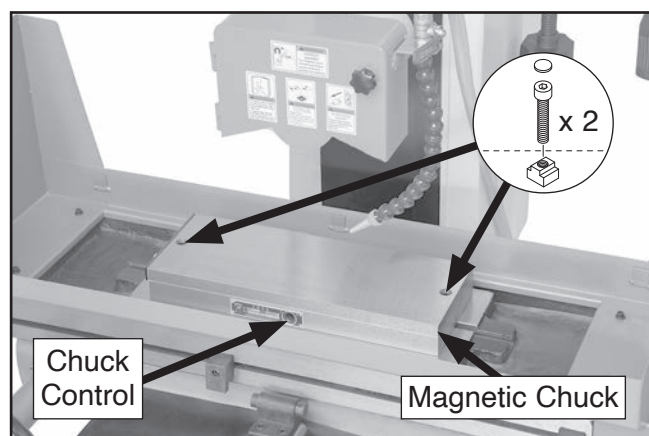

Figure 32. Magnetic chuck centered on table.
13. Verify correct table movement by sliding (1) table stop to each side of table and using X-axis handwheel to move table full left and full right.
16. Position magnetic chuck in center of table with chuck control facing forward, as shown in **Figure 32**.
17. Secure magnetic chuck to table with (2) M10-1.5 x 50 cap screws and (2) M10-1.5 T-nuts, as shown in **Figure 32**.
18. Insert (1) rubber seal into each hole on top of magnetic chuck (see **Figure 32**).